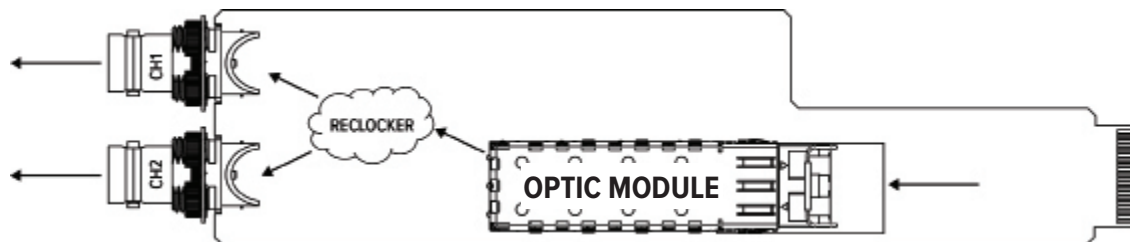

Figure 4. Sample Video Receiver Signal Flow (2 SDI Outputs, Same Signal).
- Single Receive (RX), see Figure 4.